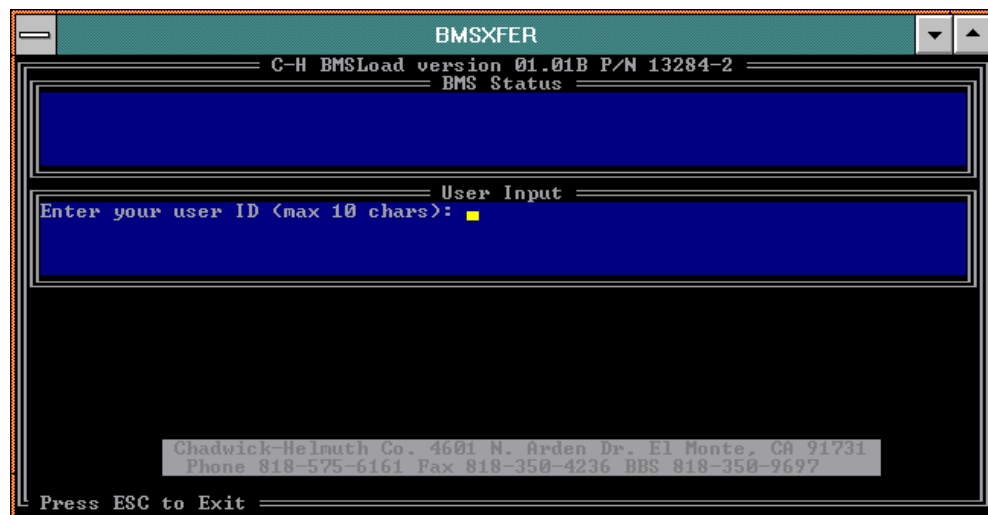

Figure 66. Upload Status Screen (User I.D.)
6. The BMS Upload Status screen will appear and ask you to enter your ID. Enter your ID and press **ENTER** (refer to Figure 66).